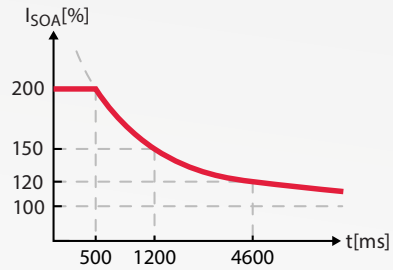

Fig. 23. Short-term current overload capability.
- An  $I^2t$  protection set as a function of  $I_{SOA}$ , thereby allowing short-term overloads (see Fig. 23).